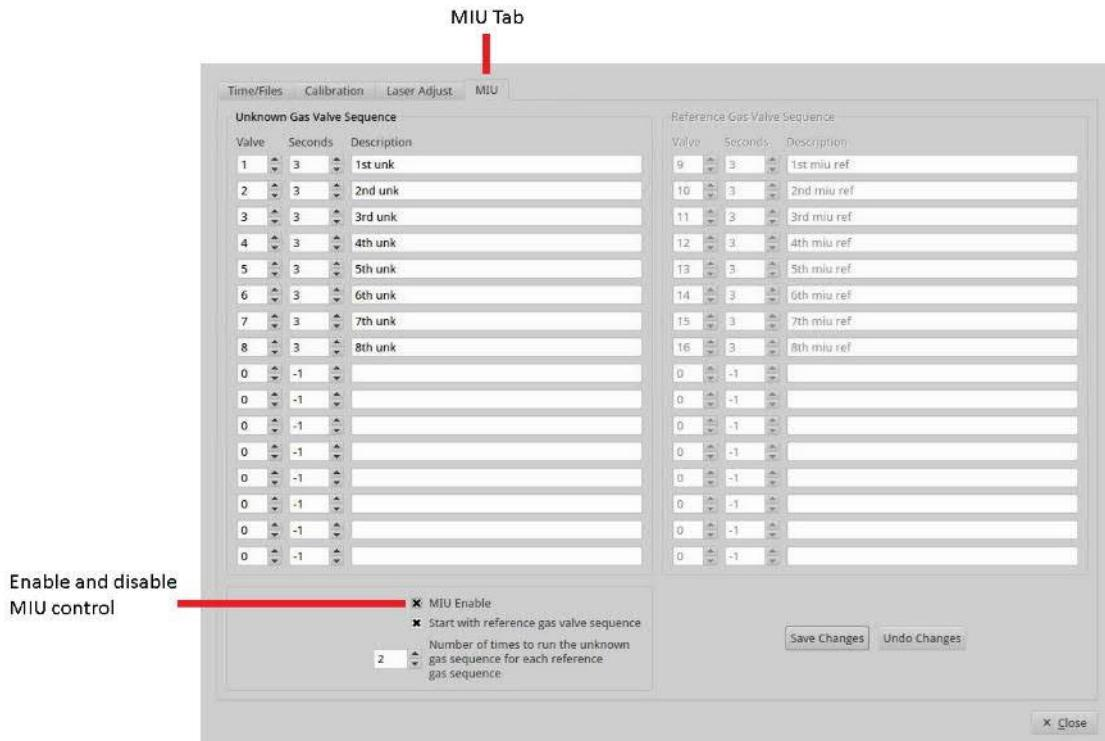

Figure 85: Gas Manifold Control Screen for the MIU, not yet enabled
2. Click on the MIU tab at the top of the *Setup* menu selection bar. (Figure 85)
Figure 85 shows the *Gas Manifold Control* Screen for the MIU not yet enabled.